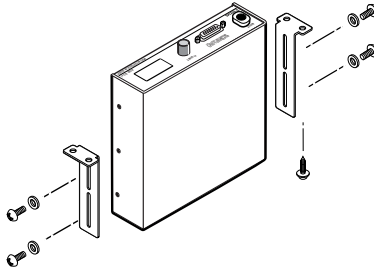

Figure 2-9 — Attaching the through desk brackets
1. Attach the mounting brackets to the interface using four machine screws and washers (supplied with the mounting kit), as indicated in figure 2-9.